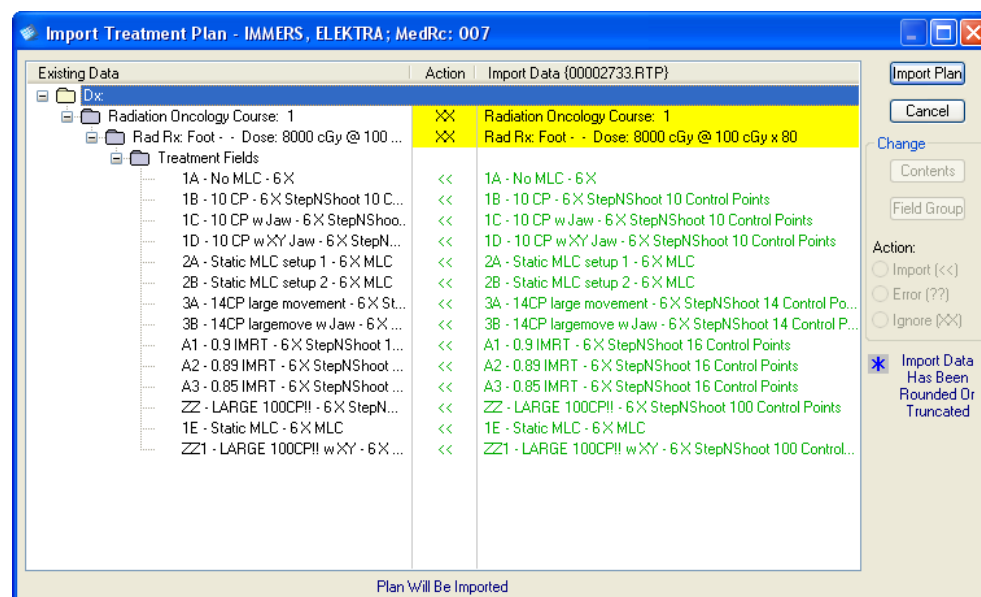

Figure 13: Import Treatment Plan Window with IMRT Fields
2. Double-click an RTP file with IMRT fields to open the Import Treatment Plan window, shown in Figure 13.